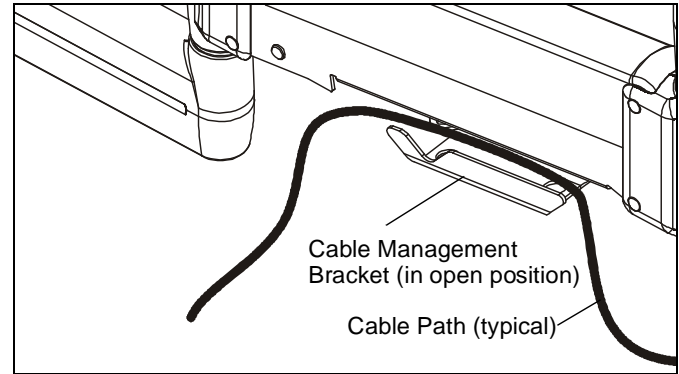

Figure 44
3. Carefully insert cables into bracket. (See Figure 44)